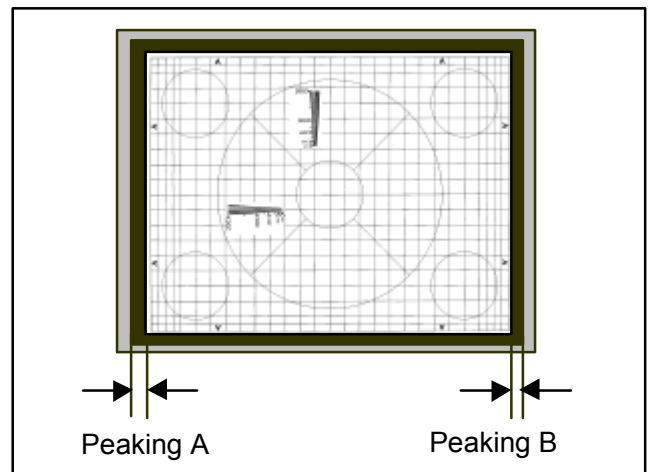

Fig.8 Peaking Balance adjustment
4. Adjust **RV2** so that the both peaking width "A" and "B" are equal. (Figure.8)